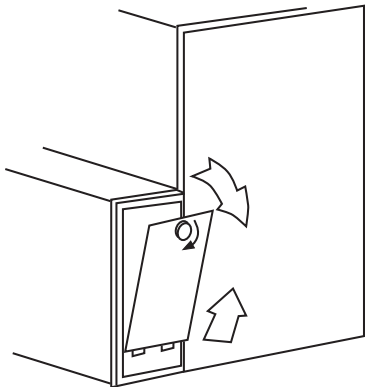
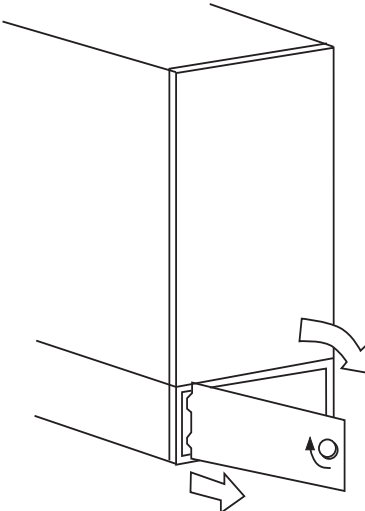

Fig. 20 – Removal of Filter Cabinet Door from Side Blower Cabinet
Fig. 21 – Removal of Filter Cabinet Door from Bottom Blower Cabinet
- a. Remove filter cabinet door (see Fig. 20 and Fig. 21).